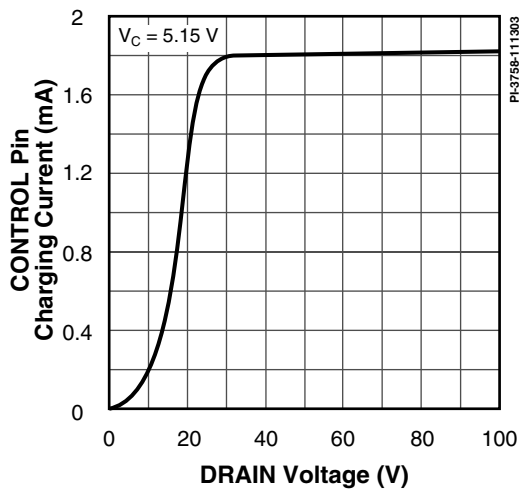

Figure 16.  $I_c$  vs. DRAIN Voltage.
- E. It is possible to start up and operate *LinkSwitch* at DRAIN voltages well below  $36$  V. However, the CONTROL pin charging current is reduced, which affects start-up time, auto-restart frequency, and auto-restart duty cycle. Refer to the characteristic graph on CONTROL pin charge current ( $I_C$ ) vs. DRAIN voltage (Figure 16) for low voltage operation characteristics.